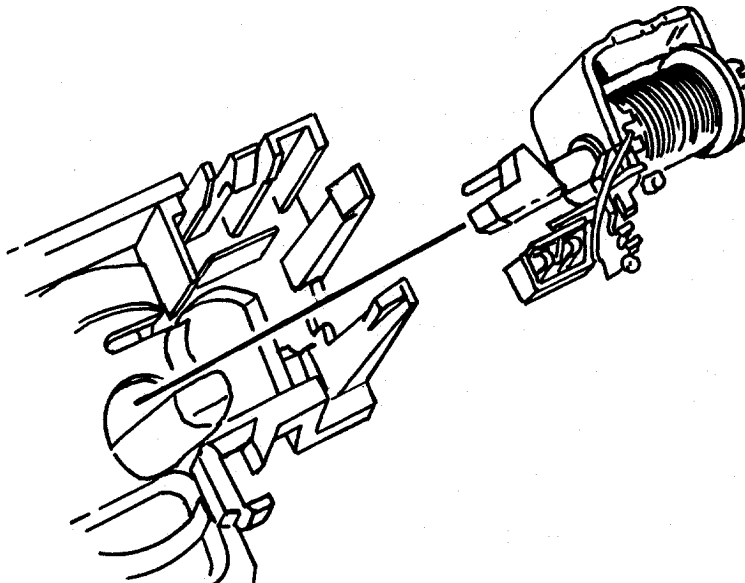

Fig. 27 Replacing Solenoid with plunger in Base Block
31. Replace the Solenoid with its Plunger in place into the Base Block. The notch and guide pin on the Plunger yoke must face the rear of the Base Block (see Fig. 27), so that the yoke pin rides freely in the Base Block slot.